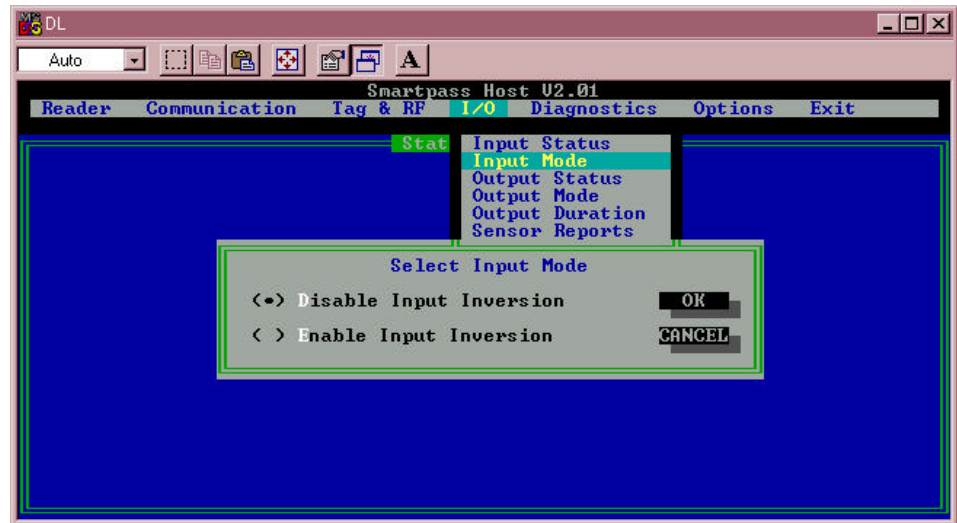

Figure 4-23 Select Input Mode Dialog Box
- Click **OK** to clear the screen; then select the **I/O** drop-down menu again and click the **Input Mode** option. This will display the **Select Input Mode** dialog box, as shown in Figure 4-23.